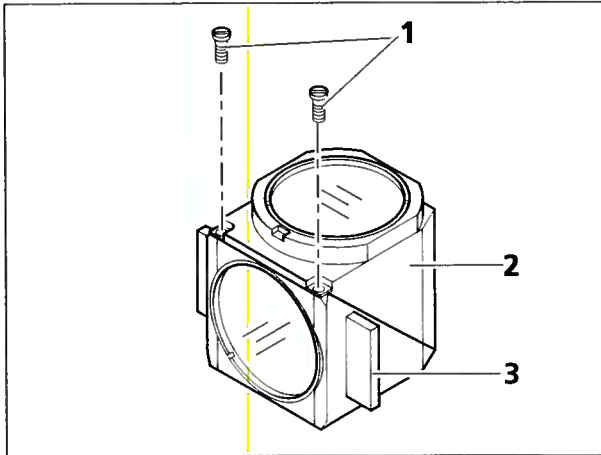

Fig. 6-12 Opening the module
- Loosen the two slotted screws (Fig. 6-12/1) with a screwdriver.
- Hold both halves of the reflector module (**emission** half of the module (Fig. 6-12/2) and **excitation** half of the module (Fig. 6-12/3) together, turn against the mounting position and set aside.